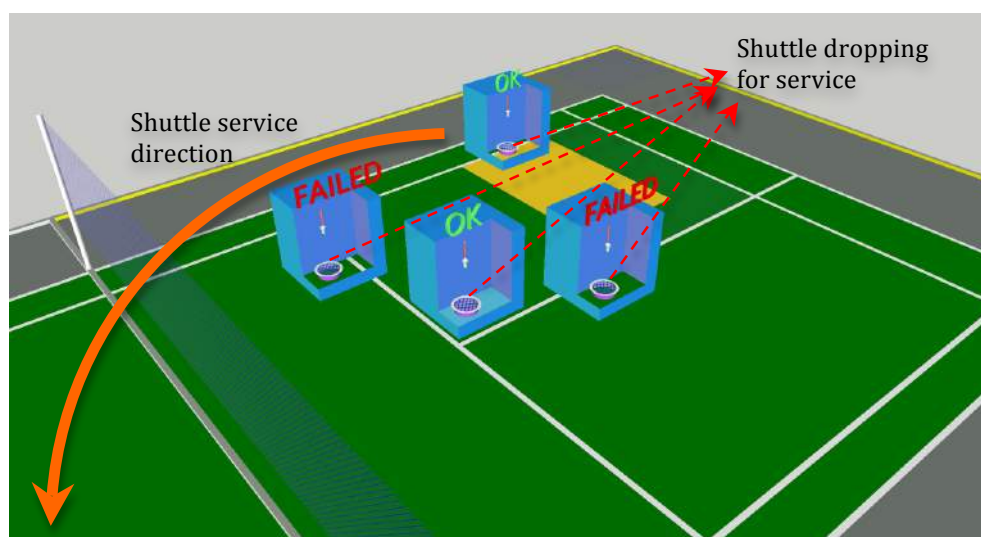

Figure 2: The legal (OK) and the illegal (FAILED) shuttle positions for service.
- 4.4.5. When delivering a service, the robot must drop the shuttle vertically. The position to drop the shuttle must be in the space above of right side of the service area (including the border line) of its own zone. (Ref to Fig.2)